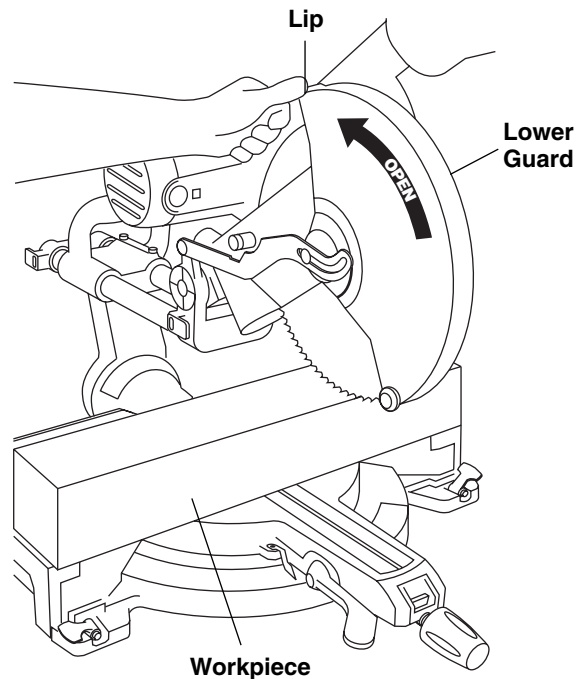

Figure 18. Raising Lower Guard
- Workpiece must be securely clamped. This frees a hand to raise the guard by the lip just enough to clear the workpiece (Figure 18).